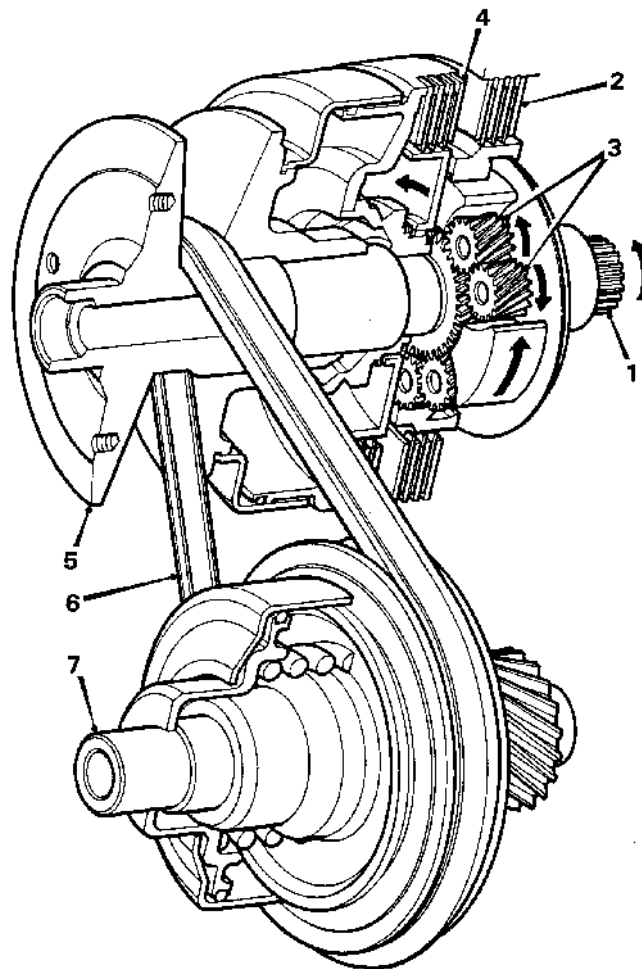

Figure 19
In this condition motion is not transferred to the wheels as both clutches for reverse (2) and forward gears (4) are disengaged (see Figure 19).
- The gearbox input shaft (1) turns at the same speed as the engine
- The reverse gear clutch (2) is disengaged
- The forward gear clutch (4) is disengaged
- The planetary gears (3) idle around the sun gear
- As the sun gear does not move, neither does the primary pulley (5), the secondary pulley (7) and, subsequently, the vehicle